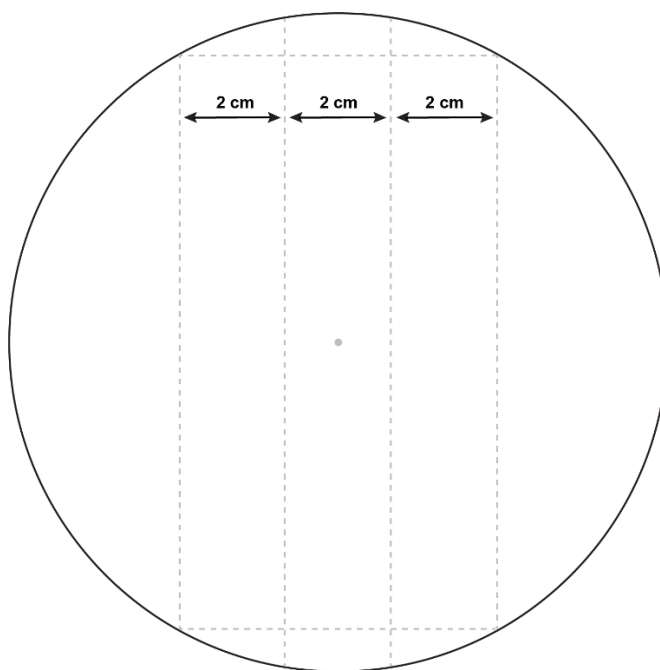

Figure 2. Cutting the Filter Paper Strips
1. Cut three strips of filter paper from one piece of filter paper, as shown below with the dotted lines in Figure 2.